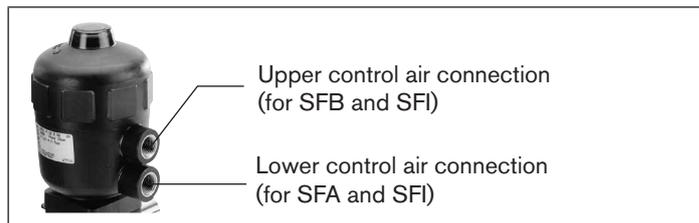

Fig. 7: Control air connection
- Pressurize the lower control air connection with compressed air (value on type label) (see "Fig. 7: Control air connection"). This is required so that the diaphragm detaches from the body and is not damaged.
- Pressurize the lower control air connection with compressed air (value on type label) (see “Fig. 7: Control air connection”).
- Pressurize the lower control air connection with compressed air (value on type label) (see following “Fig. 7: Control air connection”).
(see "Fig. 7: Control air connection").